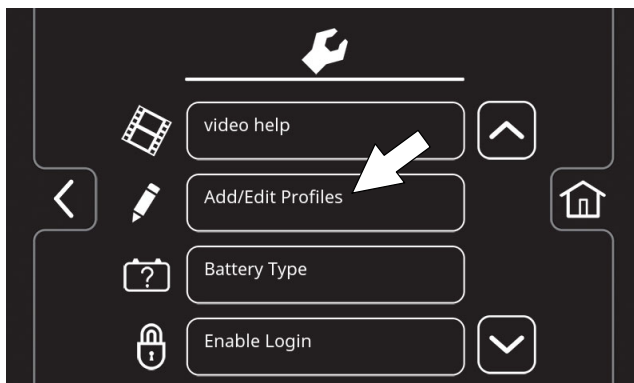

FIG. 172
2. Press the Add/Edit Profiles button (Figure 172).